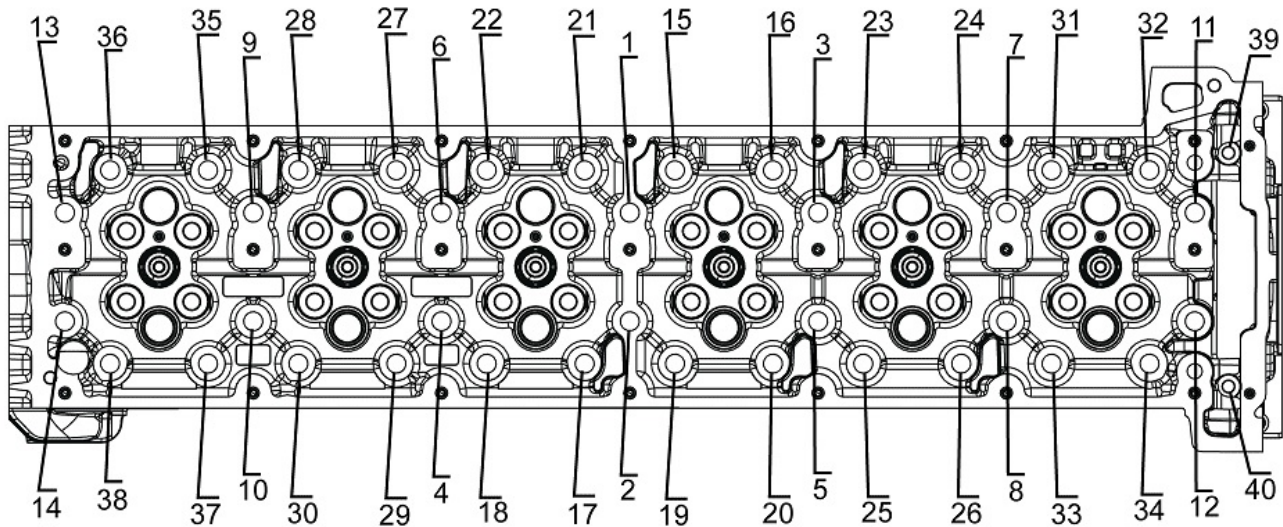

Figure 1. Cylinder Head Bolt Torque Sequence
7. Torque the 38 large bolts in four steps in numerical sequence (Figure 1) to: